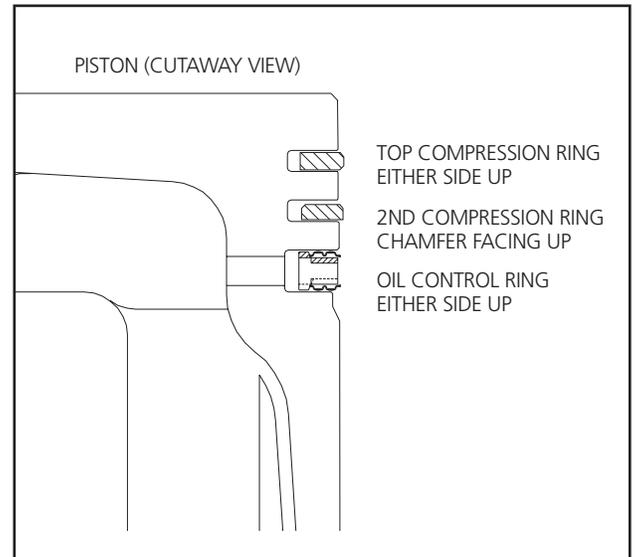

Figure 10.4 — Location of Rings in Piston Grooves
1. Install the rings (Figure 10.4).